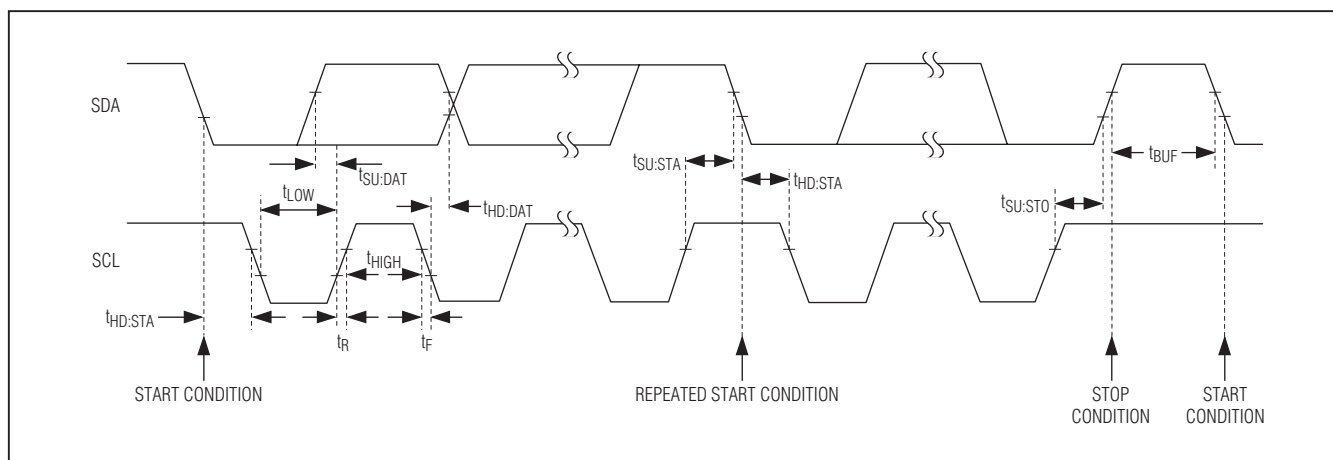

Figure 3. I2C Interface Timing Details
and an open-drain output. A pullup resistor is required on SDA. The SCL line operates only as an input. A pullup resistor is required on SCL if there are multiple masters on the 2-wire interface, or if the master in a single-master system has an open-drain SCL output. Each transmission consists of a START (S) condition sent by a master, followed by the device's 7-bit slave address plus a R/ $\overline{W}$  bit, a register address byte, one or more data bytes, and finally a STOP (P) condition (Figure 3).